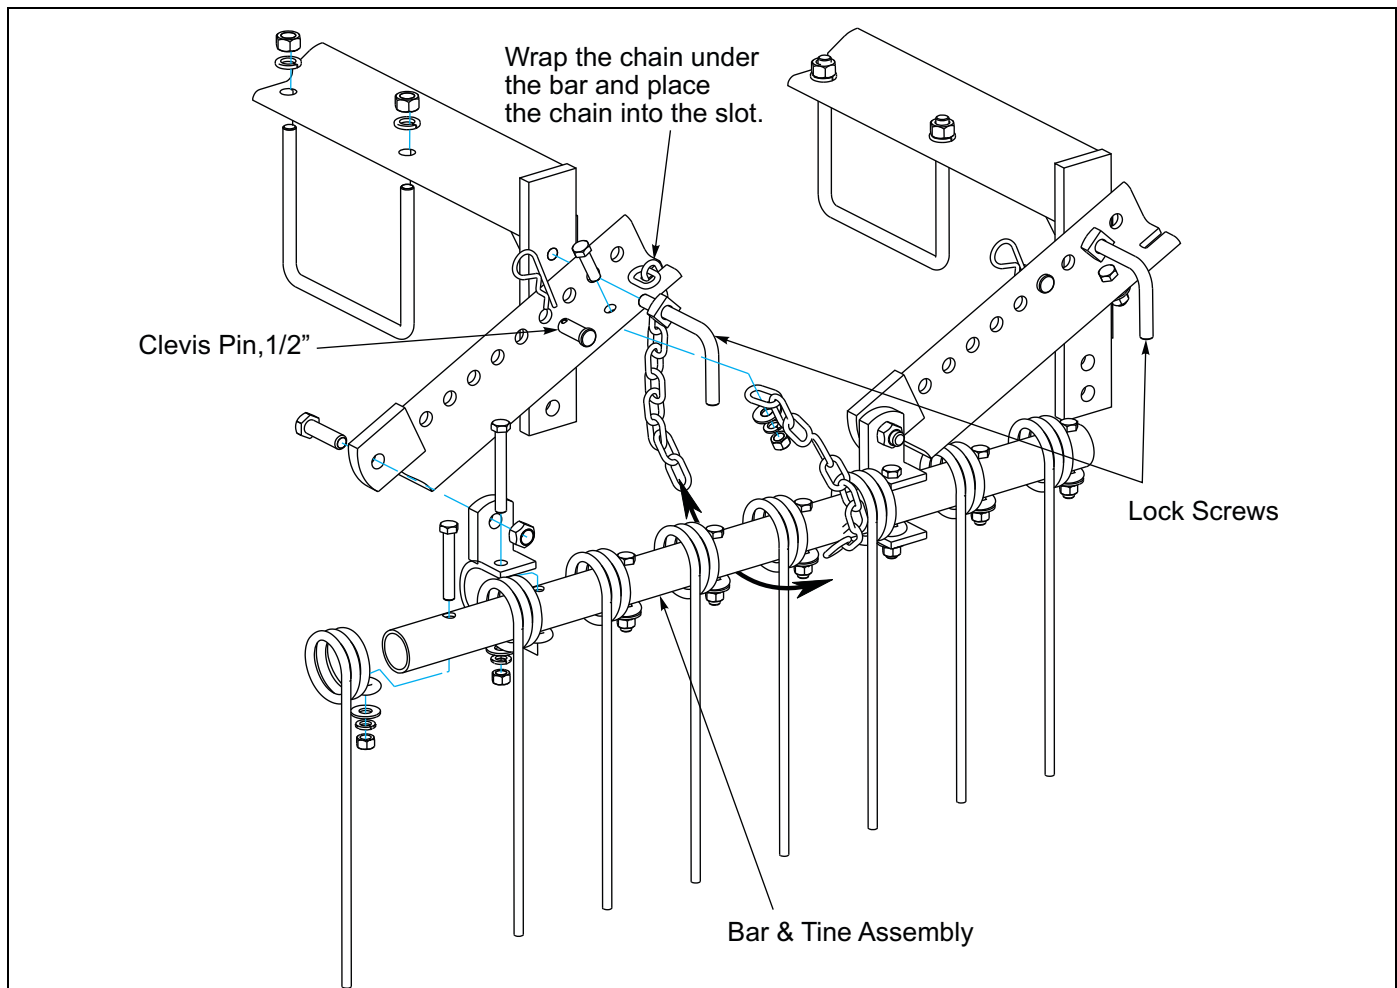

Figure 2-17: Coil Tine Setup
7. Center the entire wheel track leveler behind the tractor tires. Tighten the u-bolts against the seeder frame. **See Figure 2-17.**